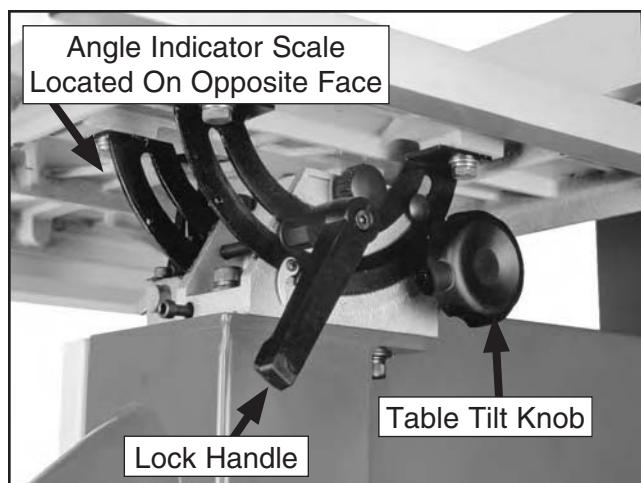

Figure 38. Table tilt controls.
2. Loosen the lock handle on the table trunnion shown in **Figure 38**.